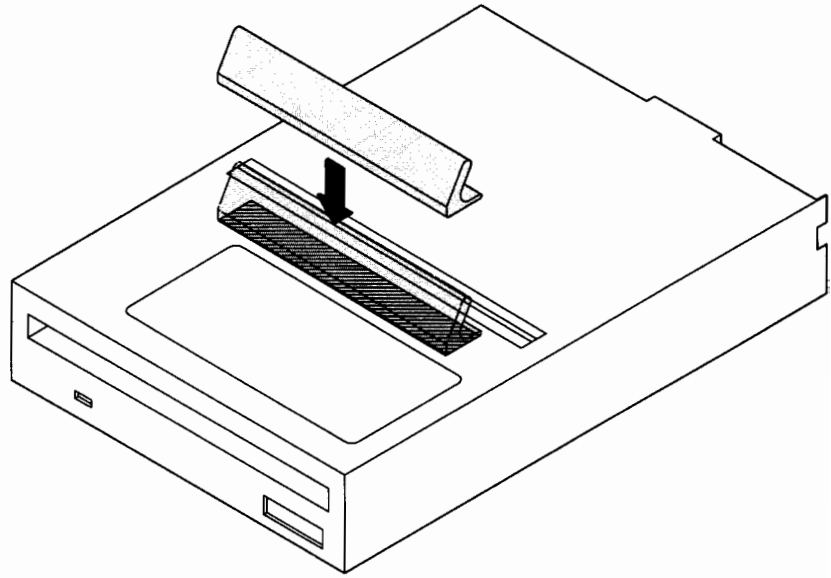

Figure B-7. Installing the Floppy Bracket
6. Peel the paper backing from the bracket that shipped with the floppy drive, and stick it to the top of the drive, as shown in Figure B-7.